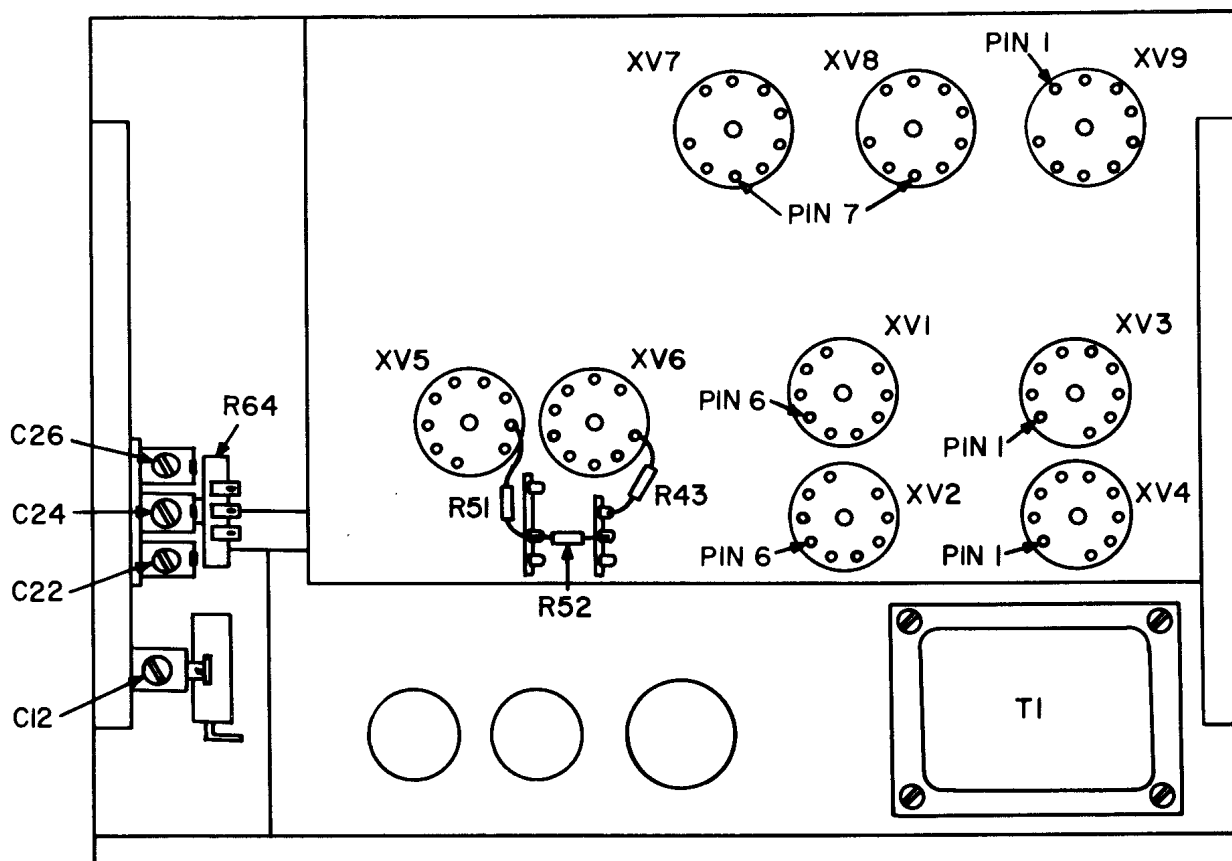
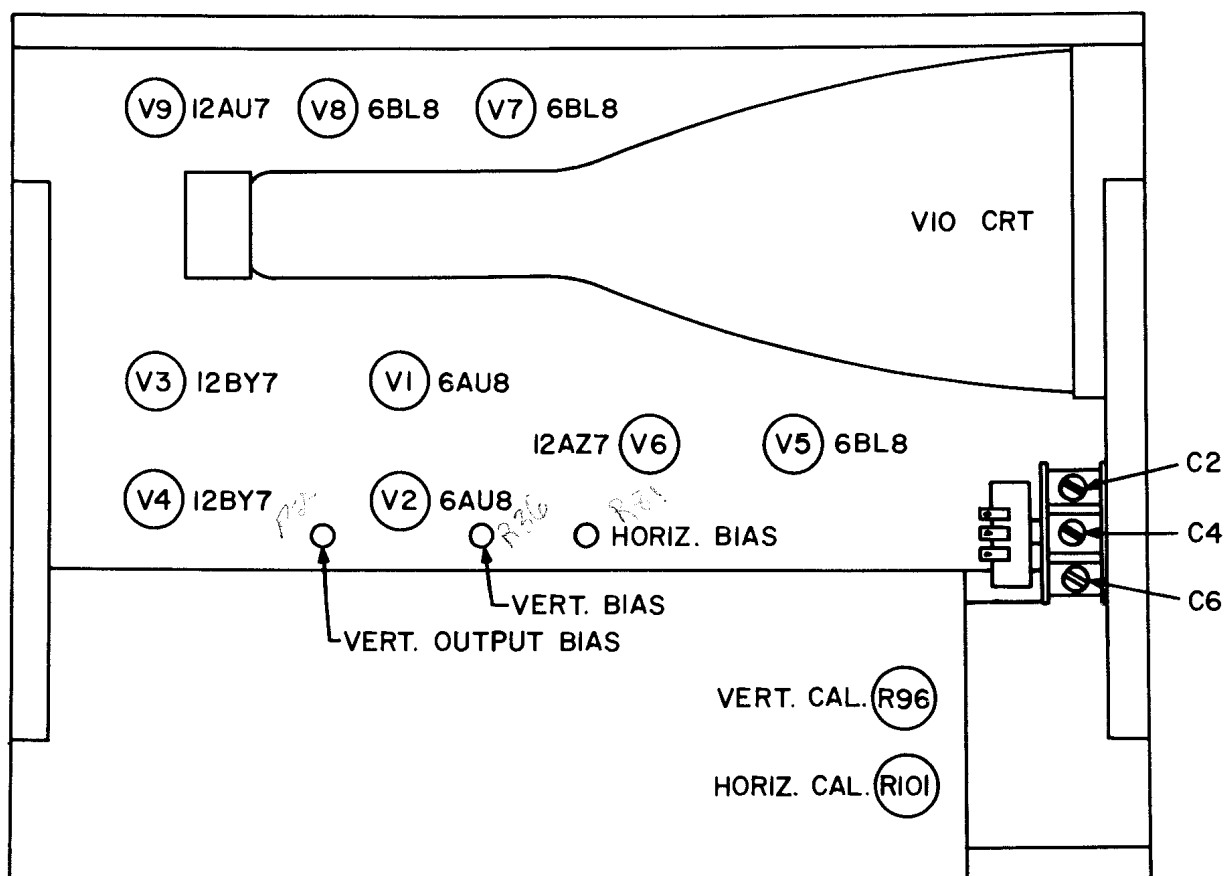
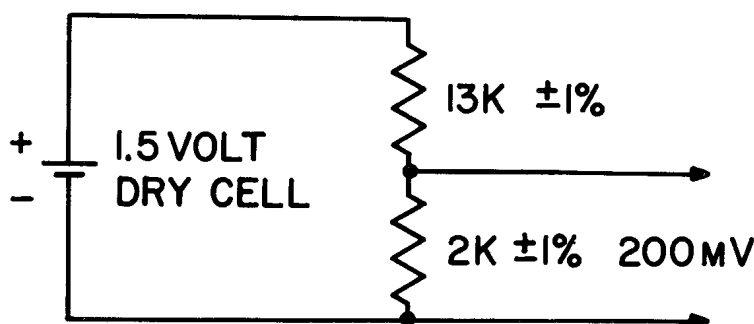

FIGURE 7
FIGURE 8
FIGURE 10
- b. Being very careful, connect a VTVM between ground (chassis) and pin 6 of either V1 or V2 (positive lead of VTVM). See Fig. 7. Adjust vertical bias input potentiometer R36 (Fig. 8) for a reading of 2.6 volts.
- b. Very carefully, connect the VTVM between ground (chassis) and pin 7 (Fig. 7) of either V7 or V8 (positive lead of VTVM). Adjust horizontal input bias potentiometer R81 (see Fig. 8) for a reading of 2.5 volts.
- a. Vertical channel stray capacitance shunting the resistive components in each attenuator network could result in frequency discrimination, were not each attenuator frequency compensated by a trimmer capacitor at each switch position. The trimmers for the vertical channel are shown in Fig. 8. The trimmers are: .5 - C6, 5 - C4, 50 - C2. The .05 range has no trimmer.
d. Set the VERT AMPLIFIER V/CM switch to the 5 position. Remove the end of the jumper from R64 and connect it to pin 1 of V9 (fig. 7). Rotate the GAIN control for minimum gain. If the trace has a "hook", adjust C4 (Fig. 8) for a straight line.
e. Now set the VERT AMPLIFIER V/CM switch to the 50 position and adjust the GAIN control for almost maximum. Adjust C2 (Fig. 8) to make a straight trace. Remove the jumper.
f. Horizontal Channel -Connect a 10-megohm resistor between pin 2 of V6 (Fig. 7) and the end of R43 (68K, 1-watt) that is not connected to pin 1 of V6.
g. Connect a jumper from the junction of R51 and R52 (connected in the cathode circuit of V5B), and shown in Fig. 7 to the HORIZ AMPLIFIER INPUT jack J2. Set both AC-DC switch at AC.
j. With HORIZ AMPLIFIER V/CM at .5, and GAIN at maximum, adjust C26 (see Fig. 7) until the "hook" disappears, and the trace is a straight line.
a. The calibration voltage is adjusted by means of R96 (see Fig. 8 for location). Before doing this, make sure that you have performed the DC balance tests discussed in 4-3 and 4-4 for both channels.
- g. Adjust R96 (Fig. 8) until the vertical line is 4 cm (4 major divisions) high. This completes the calibration voltage adjustment for a basic sensitivity of 50 mV/cm. Although the method calibration given here is convenient, it does not yield the maximum possible accuracy because the voltage divider is at the .5 position, which might introduce a possible 5% error (because of the resistors in the attenuator network). A more accurate calibration technique is to use an accurate source of 200 mV to do this calibration. A suggested source for obtaining the required 200 mV is shown in Fig. 10.
- h. Adjust R101 (Fig. 8) until the peak-to-peak deflection of the trace is 10 cm (10 major divisions). This completes the horizontal channel calibration for a basic sensitivity of 50 mV/cm.
- f. Adjust the VERT AMPLIFIER V/CM and GAIN controls to obtain a 1/2 to 3/4 screen height series of pulses. Without touching the SWEEP RANGE VERN control, adjust C12 (Fig. 7) until a stationary pattern of two complete cycles are displayed. This indicates an exact 7875 Hz sweep.